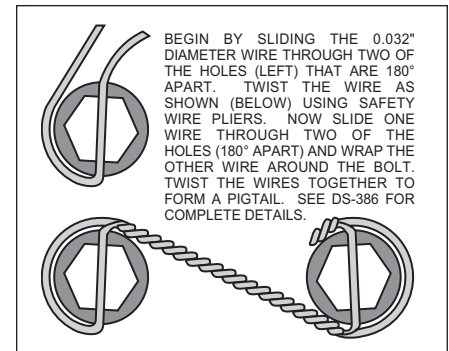

Figure 3. Safety Wire Diagram
- With the larger I.D. side of the rotor (6) facing away from the hat (7), bolt rotor (6) to the hat (7) through the backside of the rotor using washers (8) and bolts (9). Torque bolts (9) in an alternating sequence to 85 **in-lb**. Safety wire bolts (9) using standard 0.032 inch diameter stainless steel safety wire as shown in Figure 3. Please refer to Wilwood's data sheet DS-386 (available at www.wilwood.com/pdf/ds386.pdf) for complete safety wire installation instructions. Slide the rotor/hat assembly onto the spindle. Check to be sure the hat seats squarely against the hub. Install a couple of lug nuts (finger tighten) to keep the rotor/hat assembly in place while continuing with the installation.
- NOTE:** Please reference the caution statement at the beginning of the assembly instructions. Install washer (14) over each pre-installed stud (13) on the radial mount bracket (1). Slide the caliper (10) in place over the studs and rotor, then install the washer (12) and lock nut (11) to hold the caliper in place. The caliper bleed screws should be pointing up. Snug the lock nuts (11) and check that the rotor (6) is centered in the caliper (10). Add or subtract .029" shims (3) as necessary between the caliper mounting bracket (1) and the spindle to center the caliper (10).
- Remove the caliper center bridge pad retainer bolt, nut, and tube from the caliper. Slide the brake pads (15) into place. They should install easily without interference. Check that the outside radius of the brake pad is aligned with the outside diameter radius of the rotor face. Add or subtract shims (14) between the caliper (10) and mount bracket (1) to gain the proper alignment. Reinstall the center bridge pad retainer tube, bolt, and lock nut. The lock nut should be snug without play in the bolt or tube. Be cautious not to over tighten.
- Once all clearances have been checked, remove the wheel, caliper, hat, and rotor from the spindle and hub. Secure the caliper mounting bracket (1) to the spindle with bolt (2), washers (3), lock washer (4) and nut (5) as done previously using red *Loctite*® 271. Torque bolt (2) to 75 ft-lb. Reinstall the hat and rotor assembly and again using two lug nuts (finger tighten) to hold it in place. Lubricate caliper mounting studs and nuts with lightweight oil, reinstall the caliper, torque the caliper nuts (11) to 30-35 ft-lb.